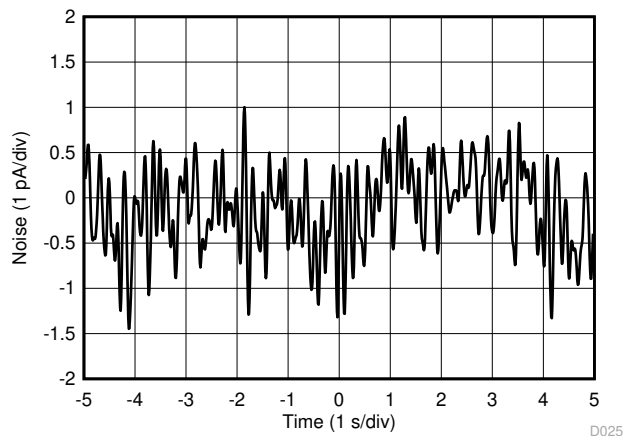

Figure 7-26. 0.1-Hz to 10-Hz RTI Current Noise
0.1-Hz to 10-Hz RTI Current Noise	Figure 7-26